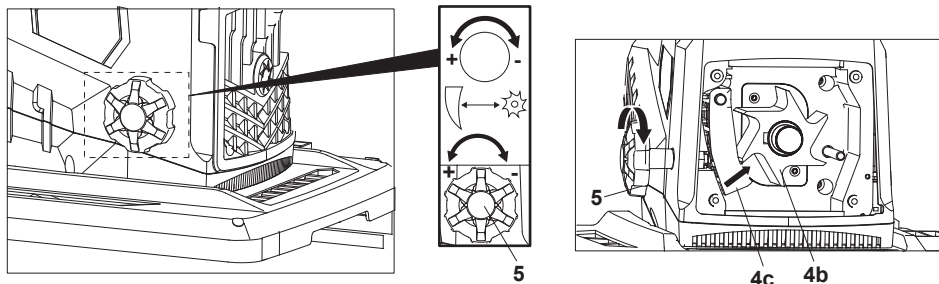

Fig. 6
2. Turn the adjustment knob (5) slowly in a clockwise direction until a scraping noise is heard (metal plate making contact with the cutter head). Fine aluminium shavings will fall from the discharge chute (Fig. 6).
3. As soon as the scraping noise is heard, rotate the adjustment knob (5) anticlockwise 1/4 of a turn. Ensure that the metal plate is not making contact with the cutter head.